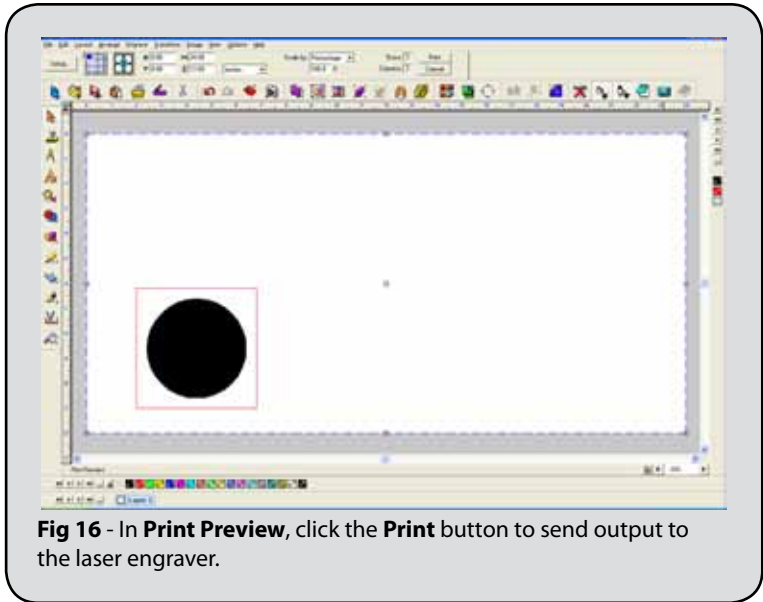

Fig 16 - In **Print Preview**, click the **Print** button to send output to the laser engraver.
3. In **Print Preview**, click **Print** to begin engraving. (Fig. 16)